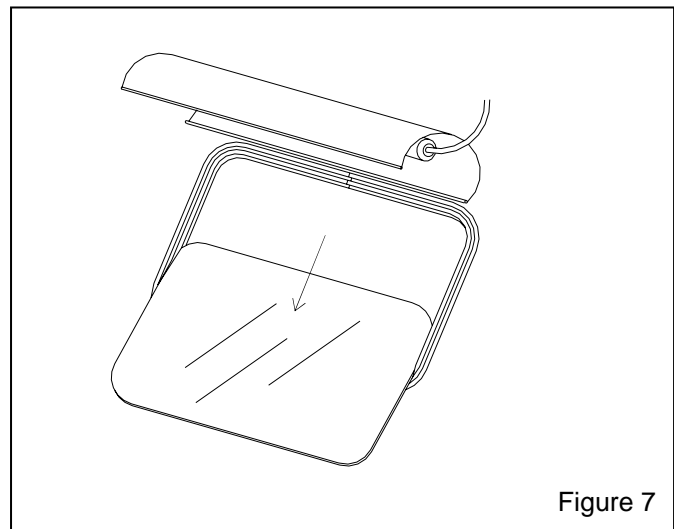

Figure 7
6.3.4. Pull the window downward to remove the window from the molding, as shown if Figure 7.